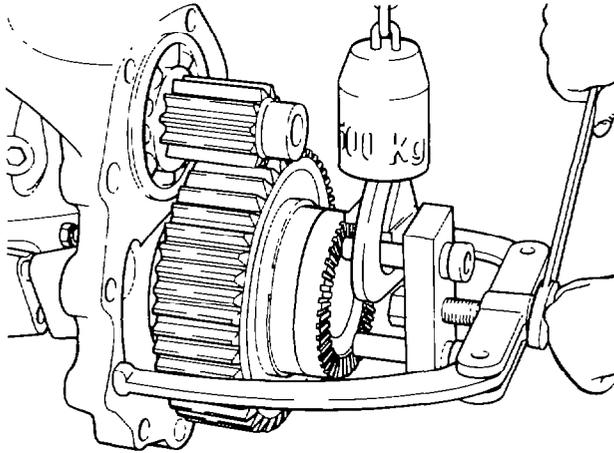

Figure 49 Removing the Hub Gear
- g. Remove the bolts securing the bearing ring in the hub casing, and remove the hub gear from the casing using Special Tools No. 6 and No. 7 (see Fig 49).